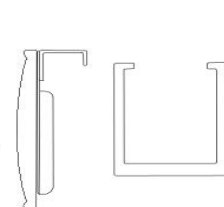

Figure 4
- iii) Hook pelmet clip with pelmet attached onto the top of the headrail (Figure 4)
- iv) Hook the pelmet clip with the pelmet attached onto the top of the headrail (Figure 4)